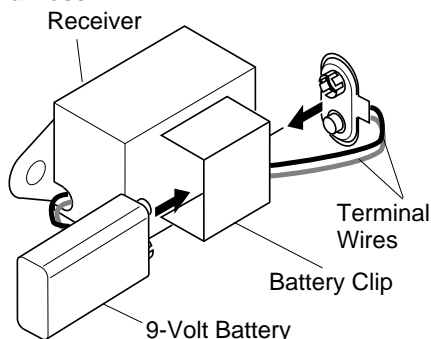

Figure 29 - Attaching Battery to Receiver
4. Locate the battery clip mounted on the back of the receiver (see Figure 29).
6. Attach the terminal wires to the battery (see Figure 29).